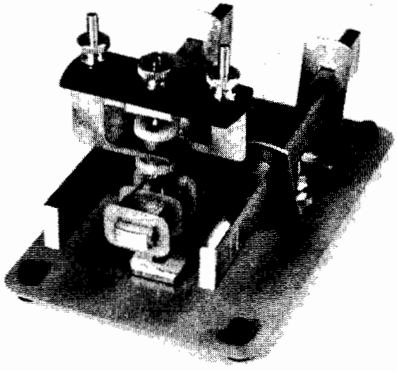

Fig. 7-2-2
10. Position armature coils at a right angle to permanent magnetic field, Fig. 7-2-2.